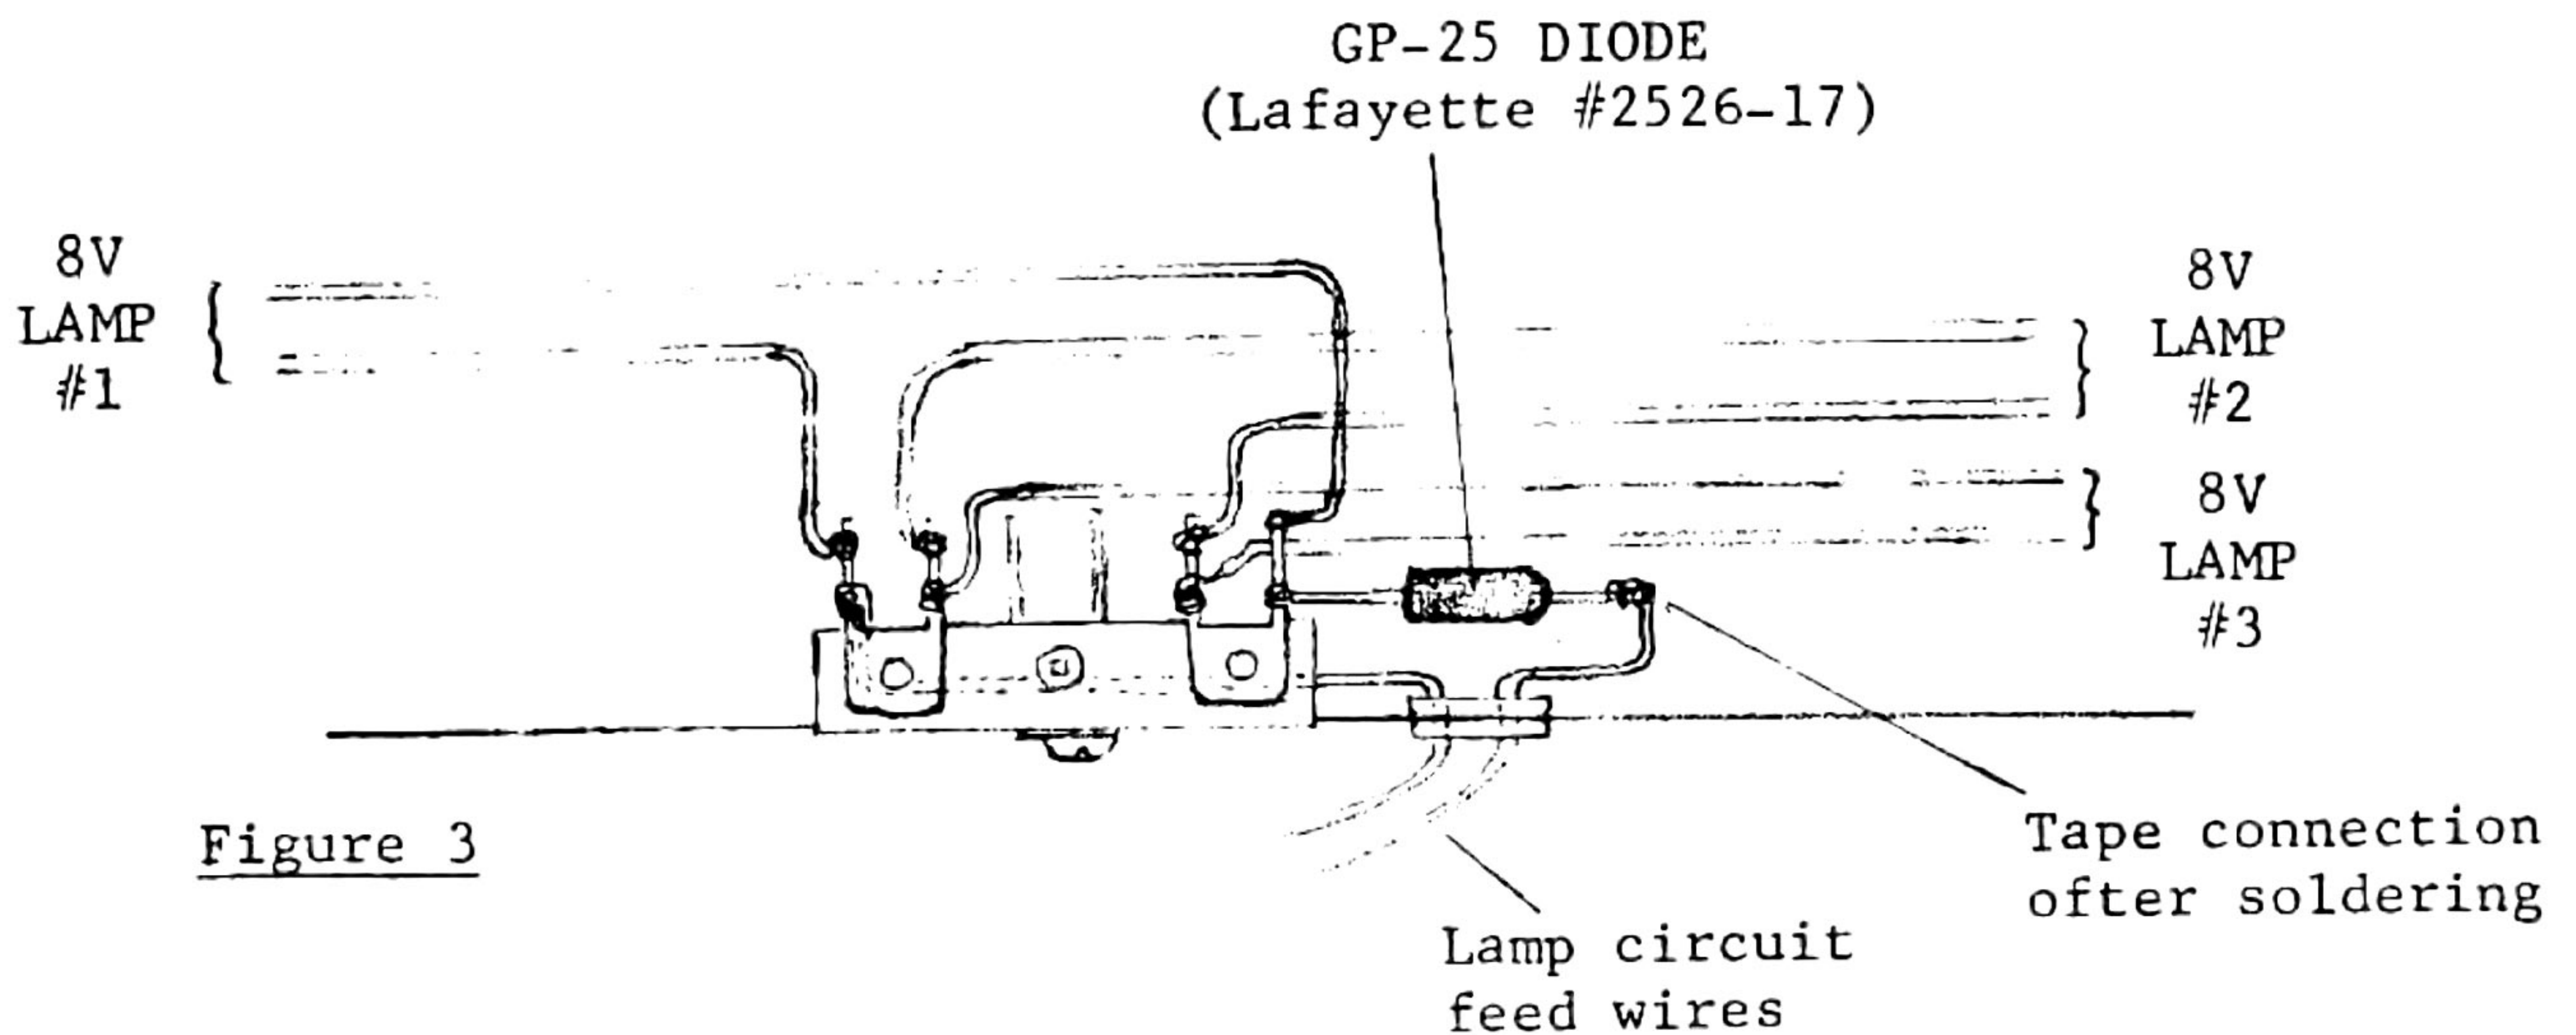

Figure 3
3. Remove one of the two main lamp feed wires (usually green) connect to one of the terminals (see Fig. 3). Connect the GP-25 diode (Lafayette #2526-17) in series with this wire. Be sure to solder connections securely and tape junction of wire and diode to avoid the possibility of shorts.